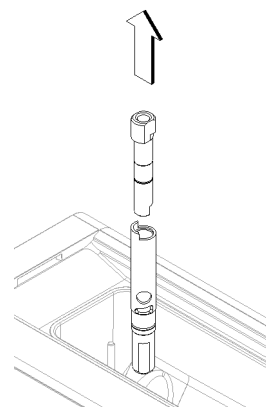

figure 20
and (see figure 20).
- 4** Reassemble the tap assembly in the reverse order to that illustrated in Figure 20 and reposition it in its seat.